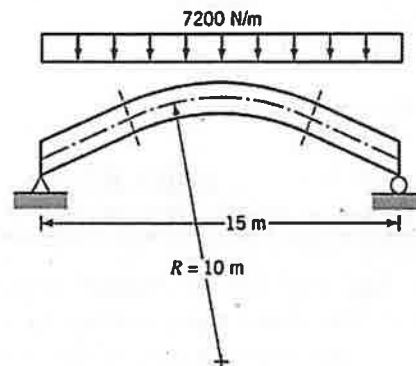

Fig. 3
12. B). A glued laminated timber (glulam) beam is used in a roof system. The beam has simple span of 15 m and the middle half of the beam is curved with a mean radius of 10 m. The beam depth and width are both constant, $d = 0.8 \text{ m}$ and $b = 0.13 \text{ m}$. Dead load is 2400 N/m and snow load is 4800 N/m. The geometry of the beam and assumed loading are shown Fig. 3. 10M